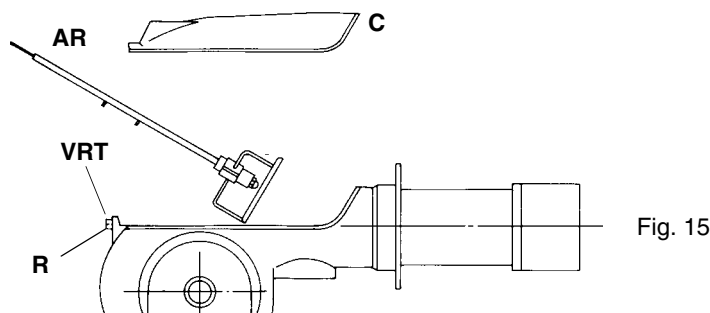

Fig. 15
- 5 remove the complete assembly as shown in Fig. 15 (in models **PG70 - PG81**) the adjusting screw VRT is pulled out with the combustion head assembly